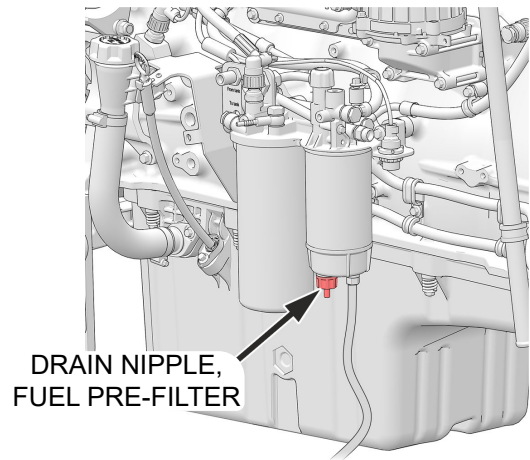

Figure 80. Fuel Prefilter Drain Nipple
2. Loosen the **drain nipple** (Figure 80) in the base of the **fuel prefilter** to begin draining.